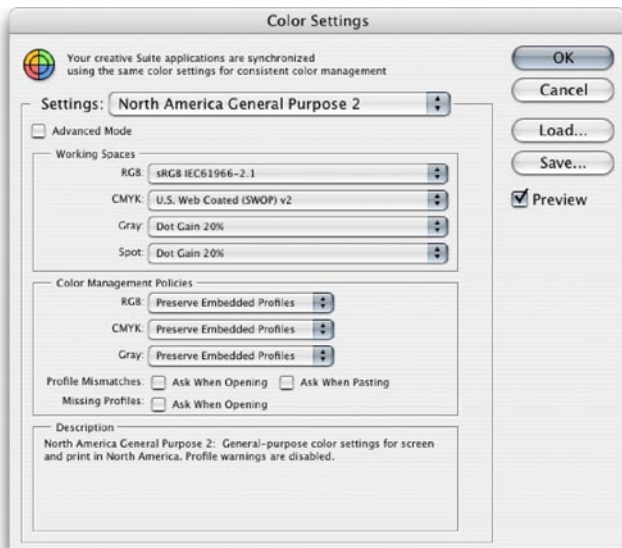

Figure 3.5 The Photoshop Color Settings. All the Photoshop color settings can be managed from within this single dialog.
One of the very first things you should do after installing Photoshop is to configure the color management settings. The default Photoshop color settings are configured using a general setting for the region you live in, which will be: North America, Europe or Japan. If you are using Photoshop for design work or photography, you will want to follow the prompt that Photoshop is giving you here. Go to the Photoshop menu (Mac OS X) or the Edit menu (PC) and select Color Settings. This will open the dialog shown in Figure 3.5. Go to the Settings menu and select one of the prepress settings. These individual preset settings only differ in the default RGB to CMYK conversions that they use. Which you should choose will depend on the geographical area you are working in. So if you live and work in the US, choose US Prepress Defaults and you will be fine with that setting. Please note that adjusting the RGB working space from sRGB to Adobe RGB is a good thing to do if you intend editing RGB photographs in Photoshop. But it is not enough just to change the RGB work space setting on its own. The prepress settings will also adjust the policy settings in order to minimize any